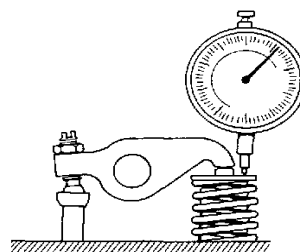

Fig. 77.
- Place the dial indicator with its measuring tip against the upper spring washer, see fig. 77. Fit the dial indicator with approx. 5 mm (0.1968") pretension.